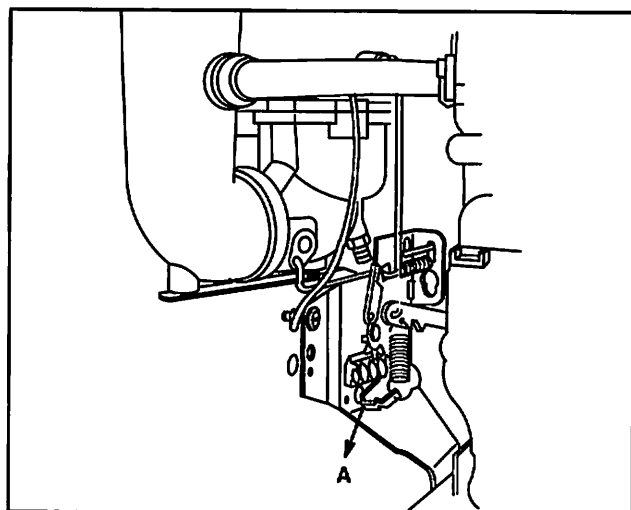

Fig. 65
Adjust Choke-A-Matic® as shown (A), to increase speed, Fig. 65.